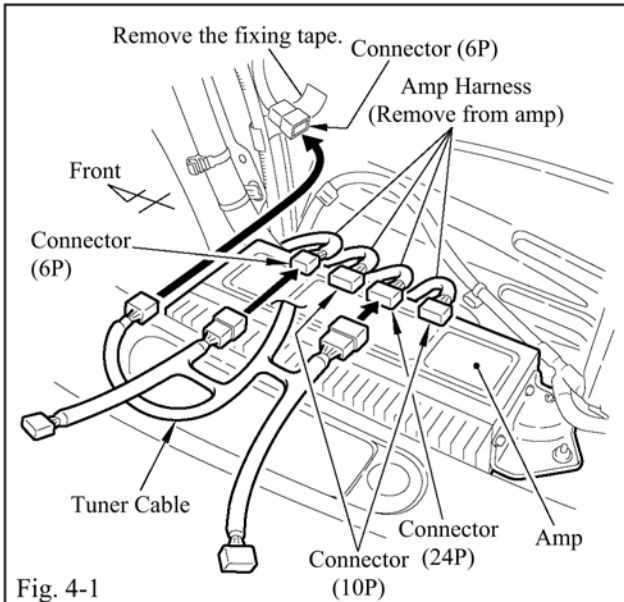

Fig. 4-1
- (a) Remove the amp harness from the amp (Fig. 4-1).
- (b) Connect the tuner cable to the amp harness and the harness shown in the figure (Fig. 4-1).